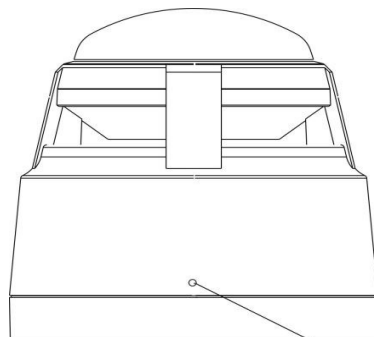

Fig. 5
2. If the sounder Beacon is required to be tamper-proof, fix it with ST2.9×5 self-tapping screws through the tamper-proof hole (see Fig. 5)on the base.